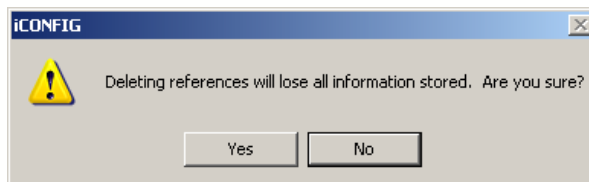

Figure 8-10 Deletion confirmation message
3. Click **[Delete]**. The deletion message displays. See Figure 8-10.